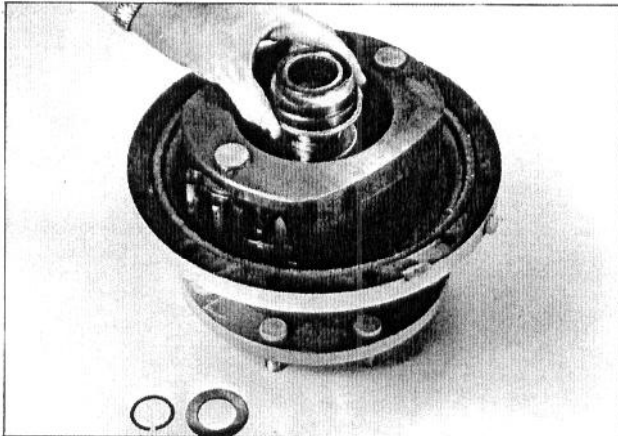

Fig. 91 - Spherical Bearing and Thrust Bearing Removal or Installation
1. Remove the snap ring and thrust washer from the end of the wheel axle. Refer to Fig. 91.